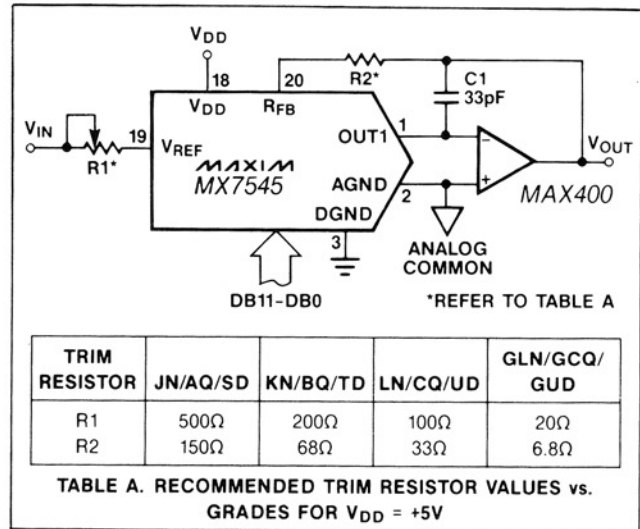
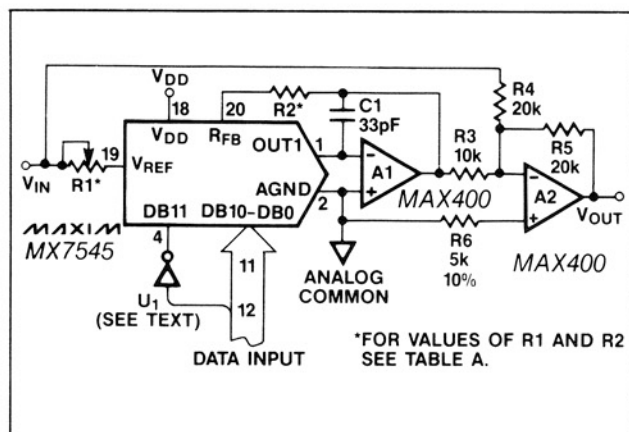
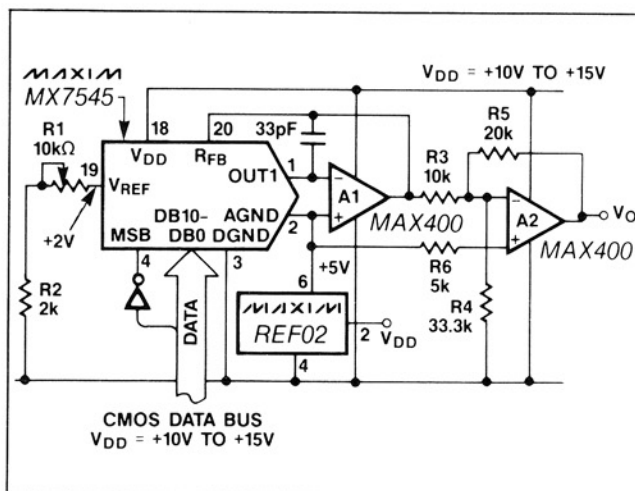

Figure 3. Unipolar Binary Operation
Figure 4. Bipolar Operation (2's Complement Code)
Figure 8. Single Supply "Bipolar" 2's Complement D/A Converter
**Note 1:** Using internal feedback resistor, RFB. DAC register loaded with 1111 1111 1111. Gain error is adjustable using the circuits of Figures 3, 4 and 8.
Either current output can be converted into a voltage externally by adding an output amplifier (Figure 3). The  $V_{REF}$  input accepts a wide range of signals including fixed and time varying voltage or current inputs. If a current source is used for the reference input, then a low temperature coefficient external resistor should be used for  $R_{FB}$  to minimize gain variation with temperature.
The most common configuration for the MX7545 is shown in Figure 3. This circuit is used for unipolar binary operation or two-quadrant multiplication. The
Table 1. Unipolar Binary Code Table for Circuit of Figure 3
In many applications the gain adjustment will not be necessary, especially when using the "G" suffix parts with guaranteed maximum  $\pm 1$  LSB gain errors. In those cases and also when the gain is trimmed at the reference source, resistors R1 and R2 in Figure 3 can be omitted. However, if the trims are desired and the DAC is operated over a wide temperature range, then low tempco ( $<300ppm/^{\circ}C$ ) resistors should be used for R1 and R2.
With the circuit configuration shown in Figure 4, the MX7545 operates in the bipolar, or 4-quadrant multiplying mode. A second amplifier and three matched resistors, R3, R4 and R5 are required. These resistors must be of the same material (preferably metal film or wire-wound) for good temperature characteristics, and they should match to 0.01% for 12-bit performance.
**Table 2. 2's Complement Code Table for Circuit of Figure 4**
To adjust the circuit with offset binary code, load the DAC with a code of 1000 0000 0000 and trim R1 for a 0V output. With R1 and R2 omitted, an alternative zero trim is to adjust the ratio of R3 and R4 for 0V out. Full scale can be trimmed by loading the DAC with all “zeros” or all “ones” and adjusting the amplitude of  $V_{REF}$  or varying R5 until the desired positive or negative output is obtained. In many applications the gain adjustment will not be necessary, especially when using the “G” suffix parts with guaranteed maximum  $\pm 1$  LSB gain errors. In those cases and also when the gain is trimmed at the reference source, resistors R1 and R2 in Figure 4 can be omitted. However, if the trims are desired and the DAC is operated over a wide temperature range, then low tempco ( $<300\text{ppm}/^{\circ}\text{C}$ ) resistors should be used for R1 and R2.
Figure 6. Differential Nonlinearity vs.  $V_{DD}$  for Figure 4 Circuit. Reference Voltage = 2.5 Volts. Shaded Area Shows Range of Values of Differential Nonlinearity that Typically Occur for L, C and U Grades.
The unipolar and bipolar circuits in Figures 3 and 4 can all be converted to voltage output mode. For example, Figure 8 shows the 2's complement bipolar circuit of Figure 4 modified to work with an output range of +2V to +8V around an offset ground potential of +5V from a single supply,  $V_{DD}$ , of +10V to 15V. The REF02 reference is used to bias the AGND at +5V. The R1 and R2 resistors form a voltage divider together
Figure 7. Differential Nonlinearity vs. Reference Voltage for Figure 4 Circuit.  $V_{DD}$  = 15 Volts. Shaded Area Shows Range of Values of Differential Nonlinearity that Typically Occur for L, C, and U Grades.